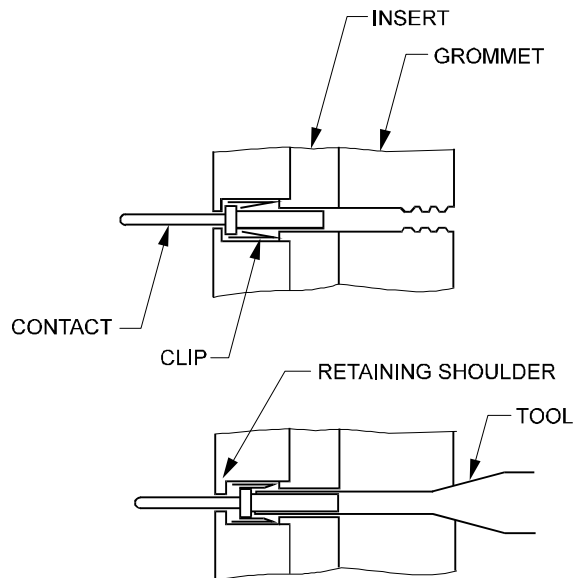

Figure 1-46
4. Slide the end of the removal tool over the contact and push into the insert hole until the retention clip is fully opened. This is illustrated in a cross sectional view at Figure 1-46.